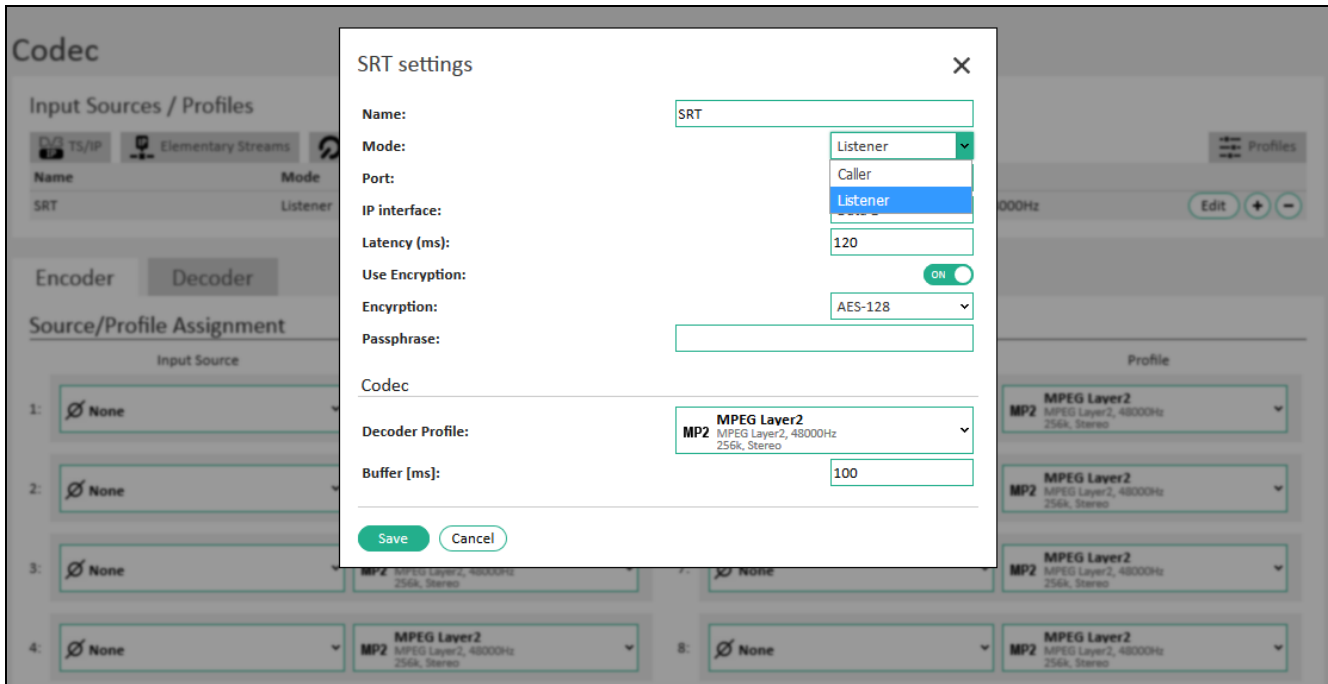

Figure 17: Input Source for coder – SRT
2. Enter the following data in the fields of the configuration of the input source “SRT settings” in the “Edit” menu (see Figure 17 “Input Source for coder – SRT” on page 35):